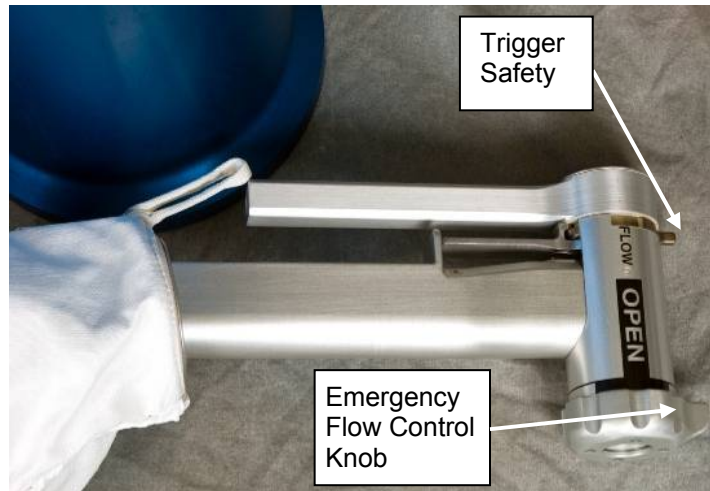

Figure 5 - Gun Nomenclature. Note that valve shown CLOSED in this photo (not correct configuration) and the nozzle not installed
29. Verify emergency flow control knob on back of gun in OPEN position (figure 5)